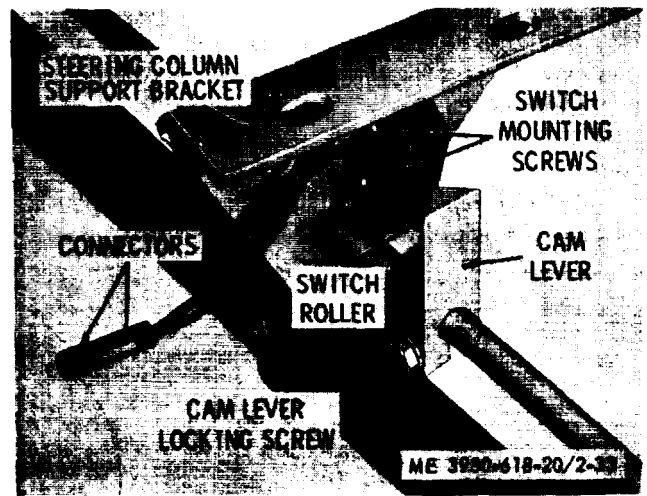

Figure 2-33. Transmission neutral switch. installed view.
*a. General.* The transmission neutral switch is attached to the underside of the steering column support bracket. The purpose of this switch is to prevent the engine from being started unless the direction shift lever is in neutral (N) position. A cam lever attached to the direction shift lever shaft actuates the switch. Always check the cam adjustment (d below) before replacing the switch when starter motor failures have been traced to the switch circuit.
*b. Removal.* See figure 2-33. To remove the switch, disconnect the 2 connectors on the switch leads from their mating connectors and then remove the 2 mounting screws.
(1) Place the direction shift lever in neutral (N) position.
(2) Loosen the locking screw on the cam lever (fig. 2-33) and position the cam lever so the switch roller is at the low point of the cam.
(3) Tighten the cam lever screw, making sure the cam lever does not move.
(4) Check adjustment by attempting to start the engine with the direction shift lever in either forward (F) or reverse (R) position. The starter motor should not operate unless the direction shift lever is in neutral (N) position.